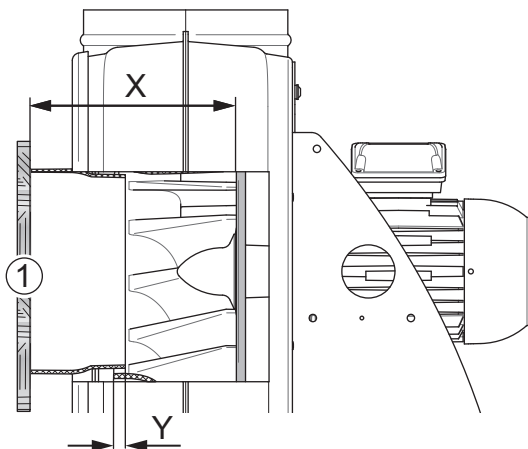

Fig. 39: Measuring impeller position (sectional view)
2. Conduct measurement according to figure 39.